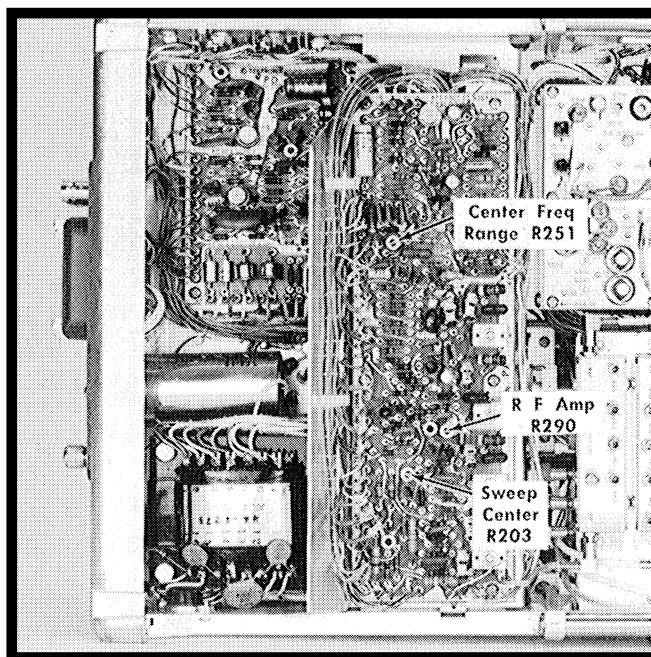

Fig. 6-18. Sweeper circuit adjustments.
- Adjust the RF Ampl R290 (see Fig. 6-18) for -0.85 volts ± 0.1 volt of trace deflection on the test oscilloscope.
- Adjust the Center Freq Range R251 (Fig. 6-18) for minimum IF signal shift as the DISPERSION selector is rotated through the 10 MHz to the .2 MHz positions. The DISPERSION RANGE switch must be in the MHz/DIV position for this adjustment.
- Adjust the Sweep Center R203 (Fig. 6-18) to position the 200 MHz signal at the graticule center horizontal line.